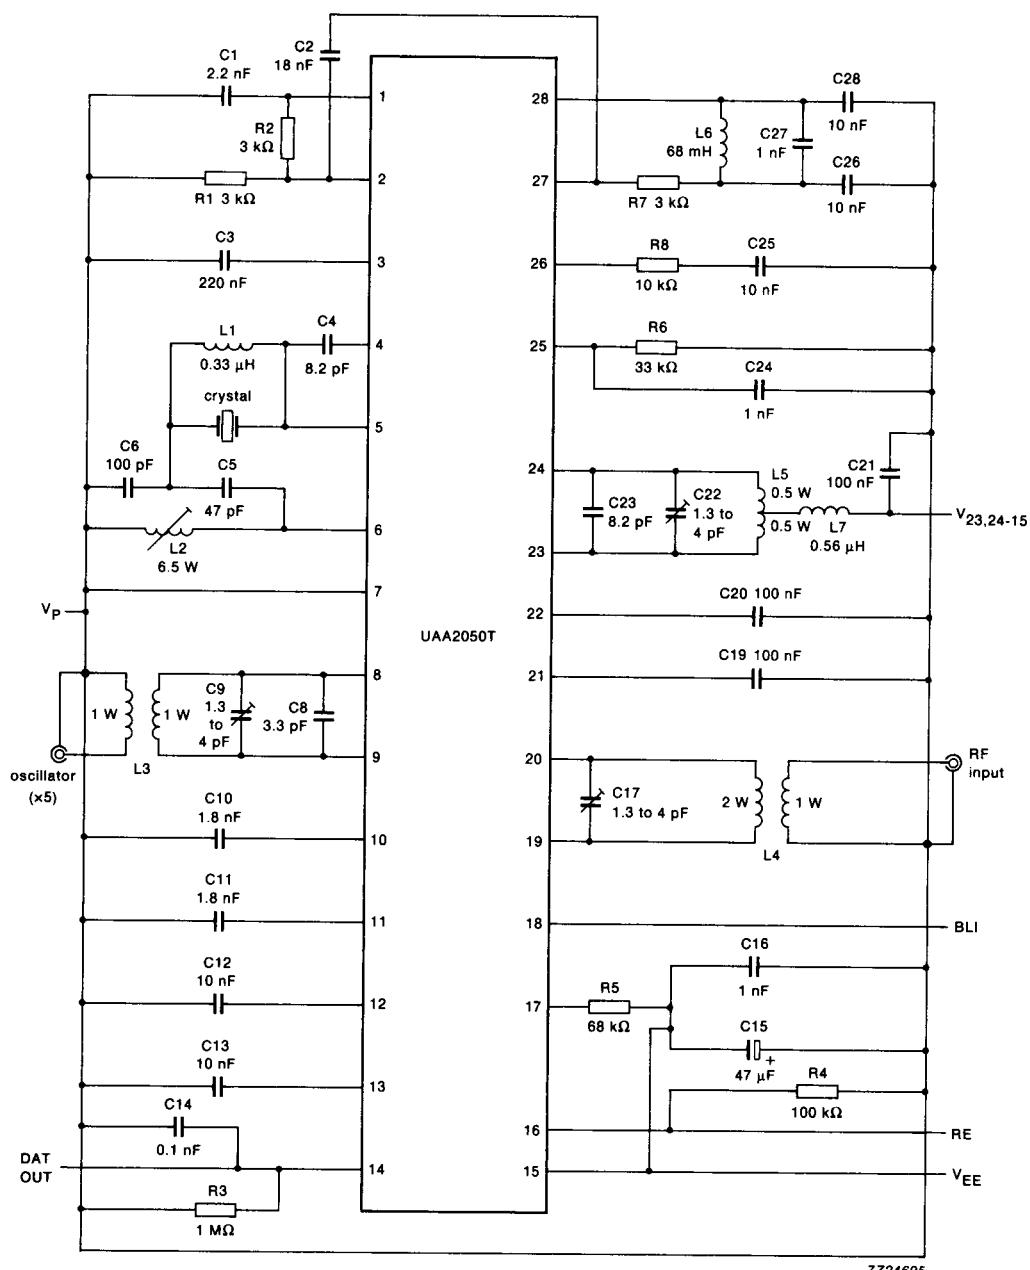

Fig.4 Test circuit (UHF).
$V_P = 2.0 \text{ V}$ ;  $V_{23,24-15} = 1.1 \text{ V}$ ; all voltages referenced to  $V_{EE}$ ;  $T_{amb} = -10 \text{ to } +55 \text{ }^\circ\text{C}$ ; typical values measured at  $T_{amb} = 25 \text{ }^\circ\text{C}$ ; test circuit as Fig.4; L2 and L3 short-circuited; unless otherwise specified
For AC test procedures refer to section 'TEST INFORMATION'.  $V_P = 2.0 \text{ V}$ ;  $V_{23,24-15} = 1.1 \text{ V}$ ; all voltages referenced to  $V_{EE}$ ;  $T_{amb} = -10 \text{ to } +55^\circ\text{C}$ ; typical values measured at  $T_{amb} = 25^\circ\text{C}$ ; test circuit as Fig.4 and printed-circuit board layout as Fig.7; test signal:  $f = 469.200 \text{ MHz}$ ; deviation =  $\pm 4.5 \text{ kHz}$ ; modulation = 256 Hz rectangular; channel spacing = 25 kHz; unless otherwise specified
1. After performing the DC tests, prepare the device for AC testing (as shown in Fig. 4).
For information concerning the crystal oscillator and inductors, refer to Fig.4.